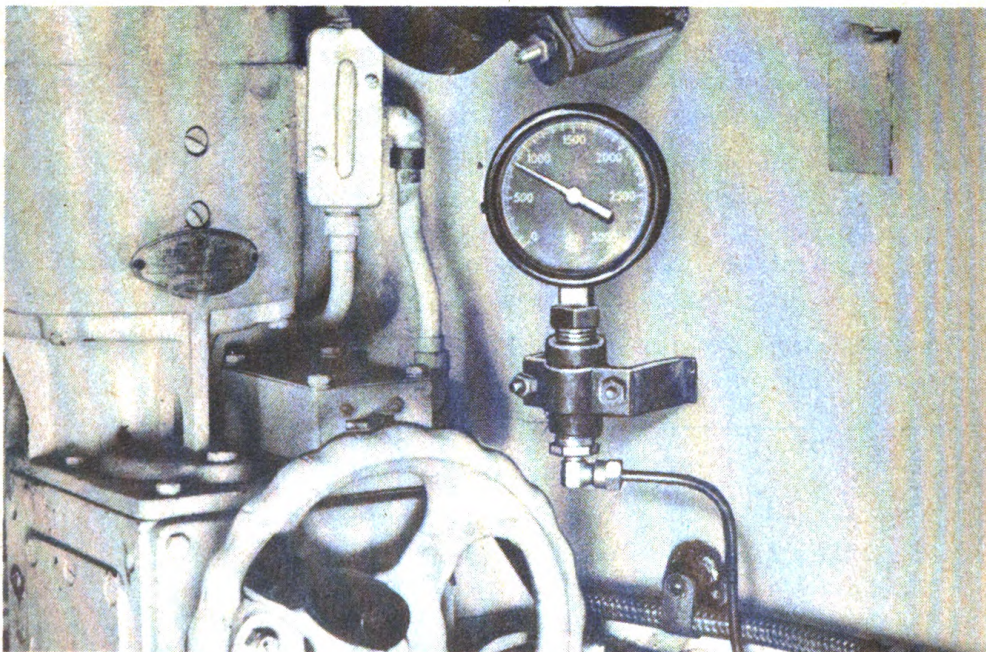

Figure 22—Auxiliary air pressure gage.
c. Auxiliary pressure gage (fig. 22). An auxiliary pressure gage ($3\frac{1}{2}$ -inch dial heavy duty pressure gage reading from 0 to 3,000 pounds